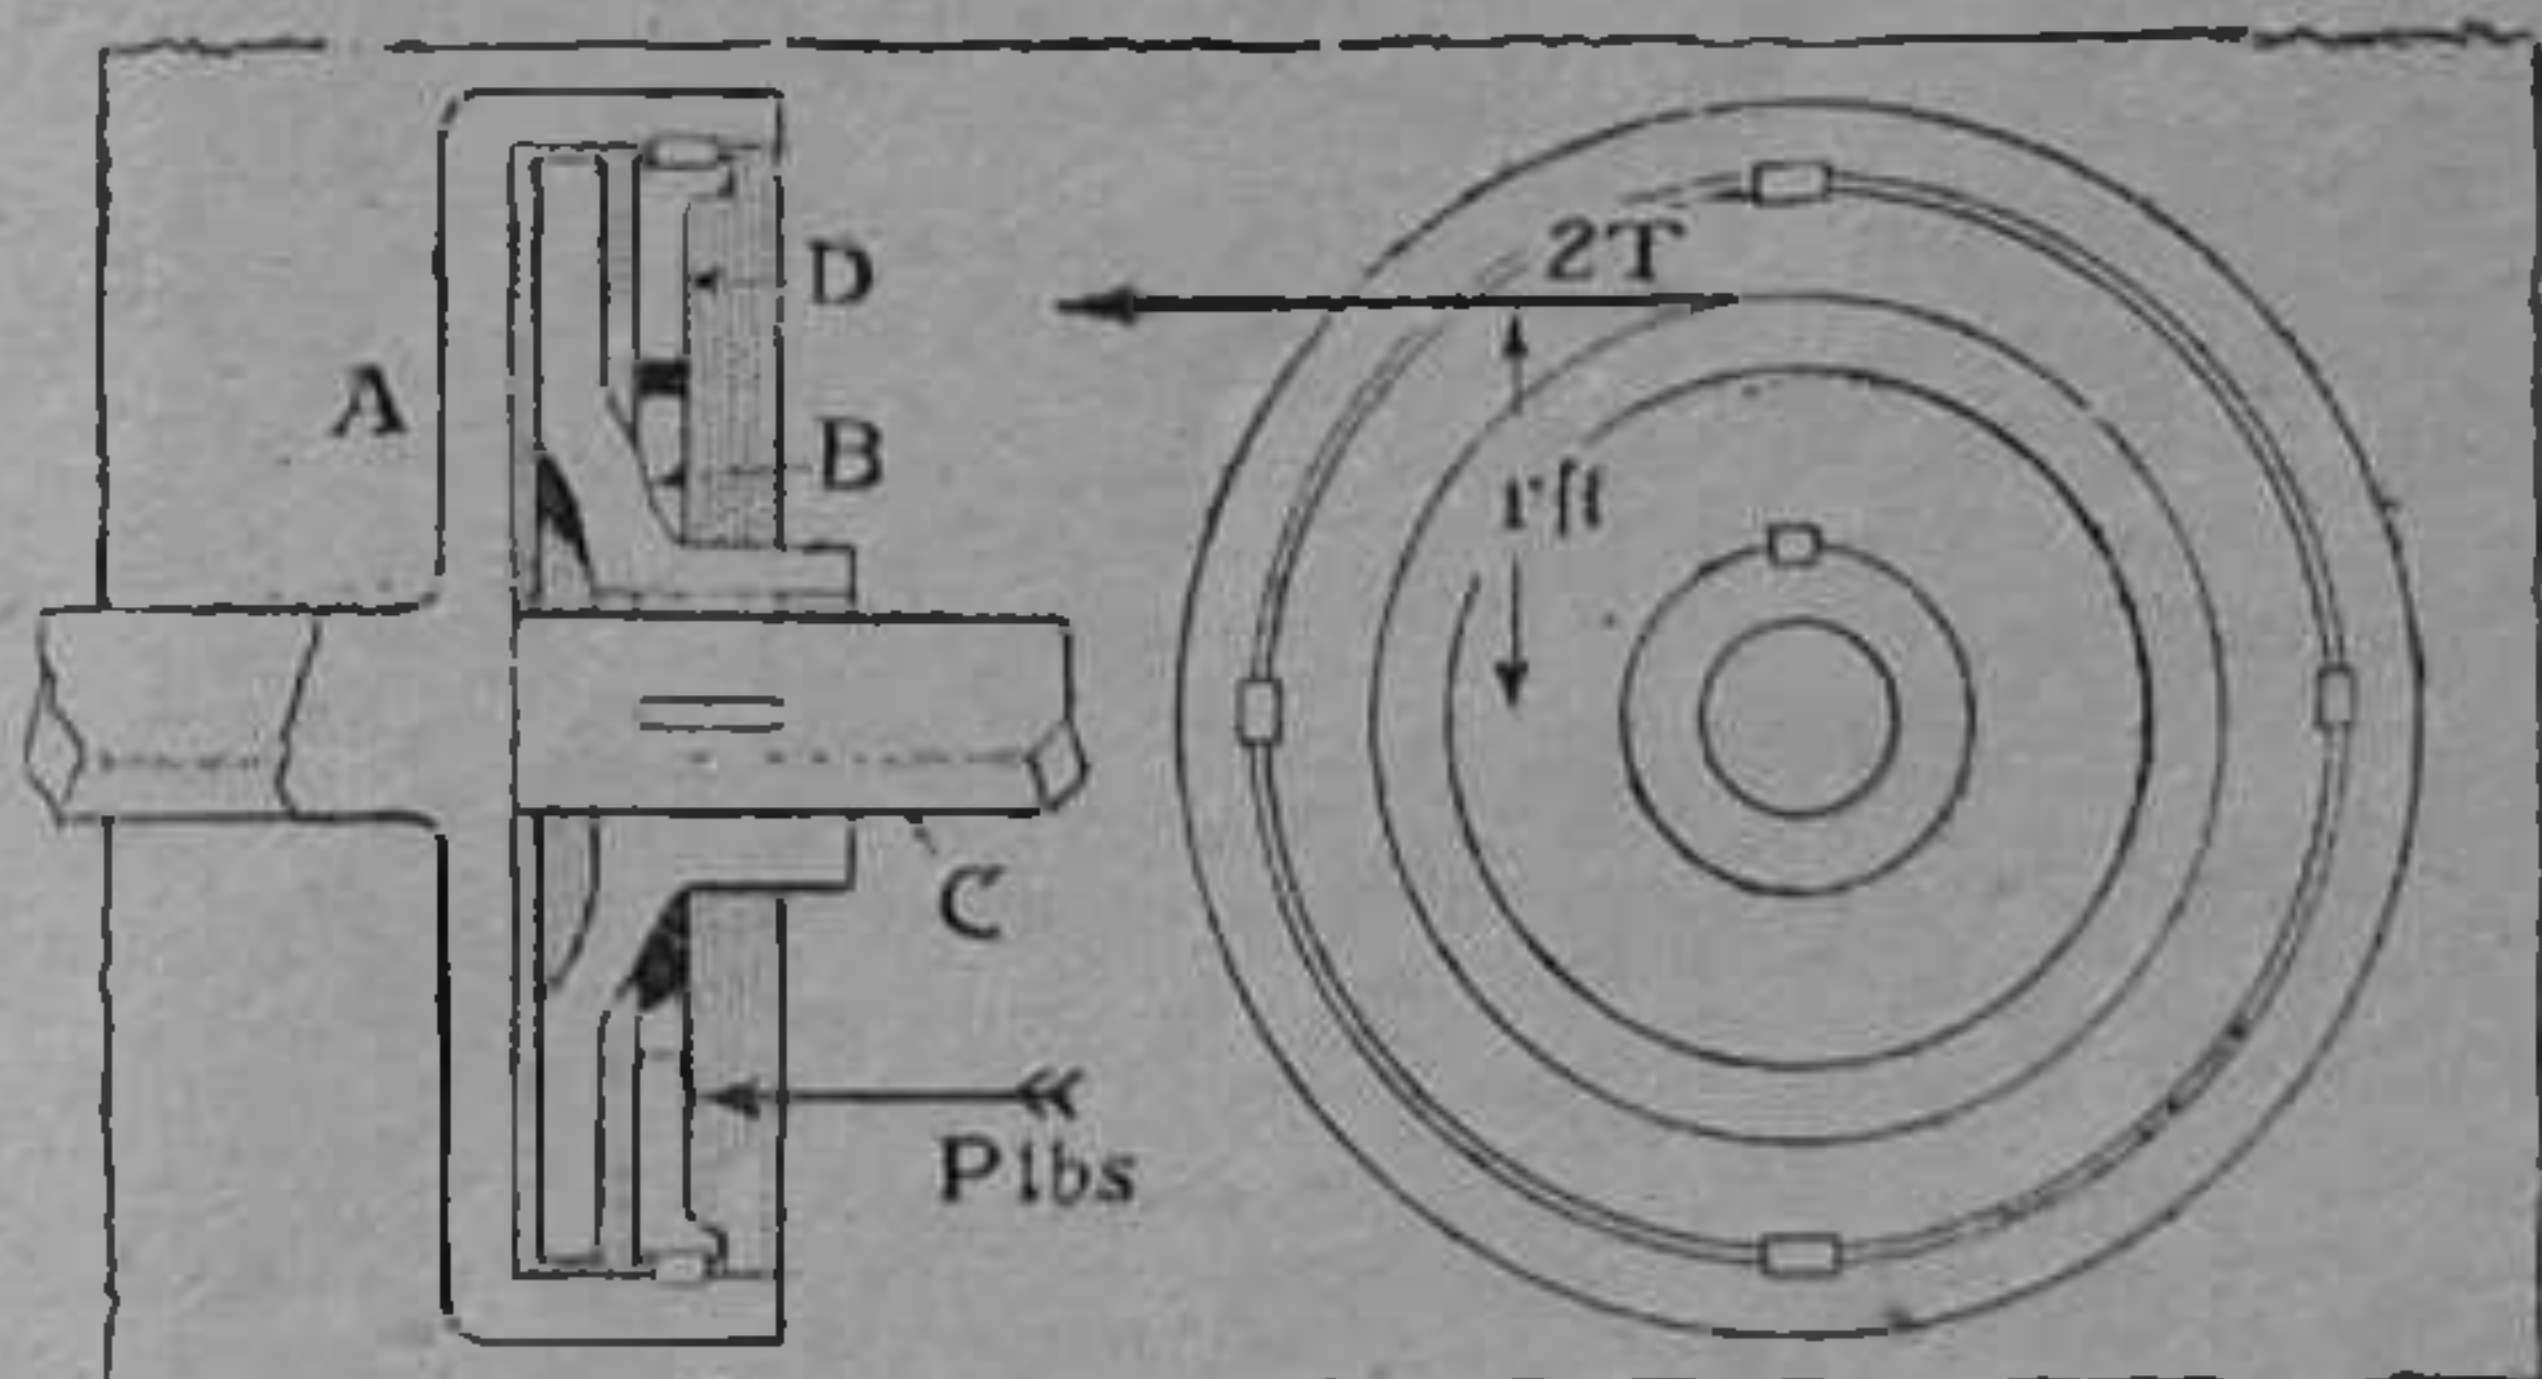

Fig. 2.—Showing increased frictional surface.
sible limit, and the clutch cannot very well be run at more than engine speed, some alteration in design is required which will increase T without increasing P. Fig. 2 shows the simple method of doing this, which results in the standard type of dry plate clutch fitted to many motorcycles. An extra friction surface (D) is provided, which rotates with A, but can slide axially